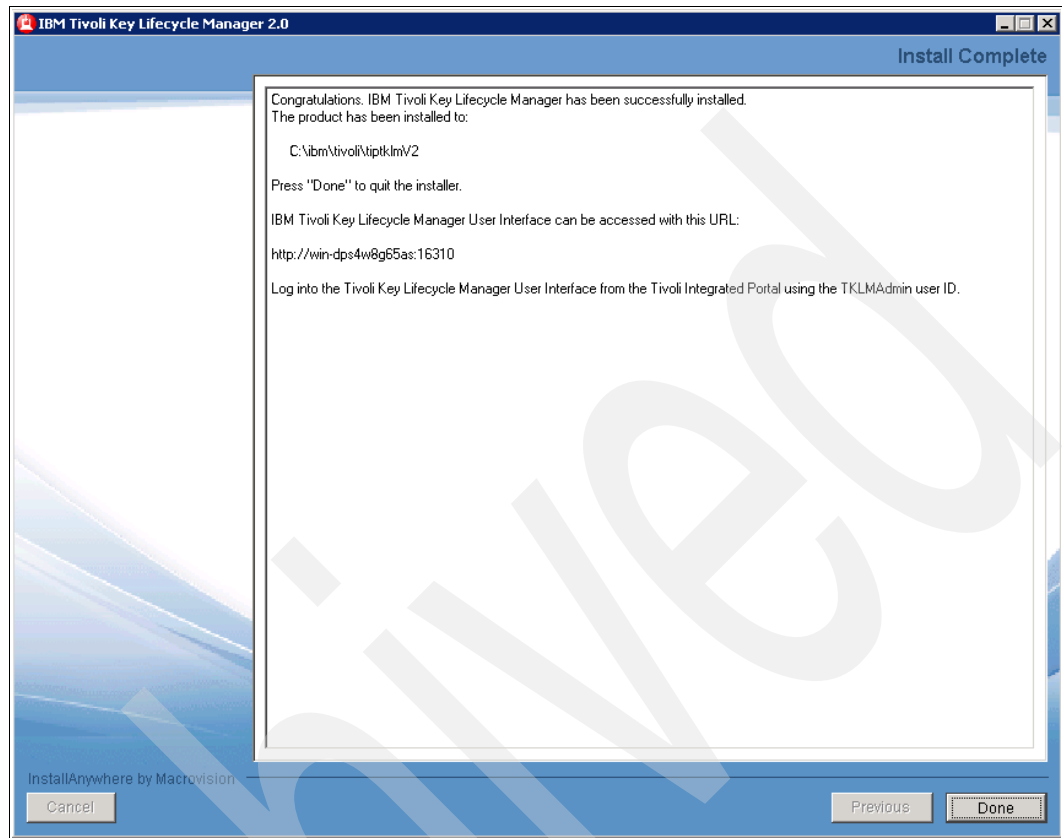

Figure 6-17 TKLM\_v2\_inst\_complete
17. When installation is complete a success message is displayed (Figure 6-17). Click **Done** to quit the installer.